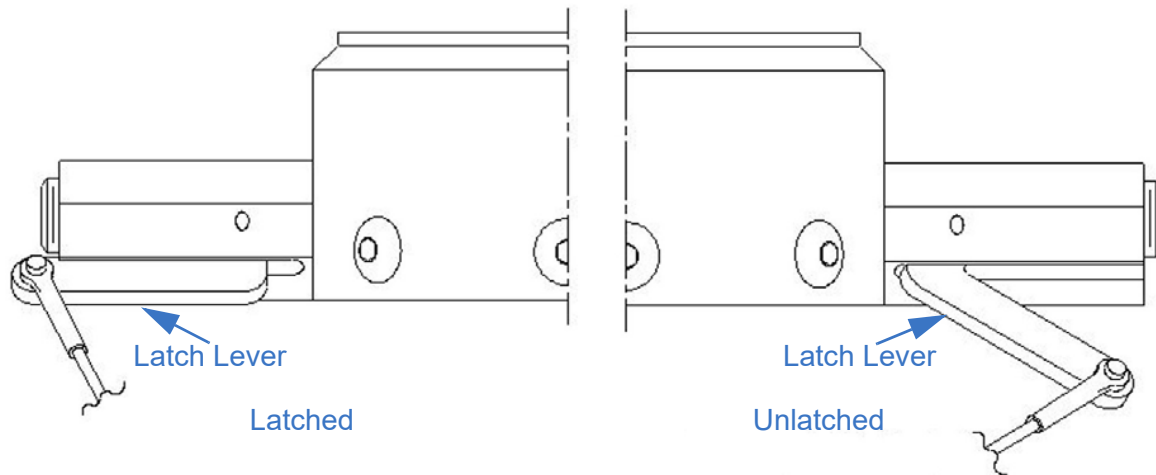

Figure 6-12 Latch Lever Positions
10. Pressurize the mast while continuing to hold down the trip line. While pressurizing the mast, you should feel the locks unlatch without needing to apply substantial pressure. Observe the latch levers (Figure 6-12) to confirm they have unlatched. When unlocked, they should both be pointing down at about a 45° angle from the collar ears. It is possible for the latch levers to be at a slight angle and still be latched.